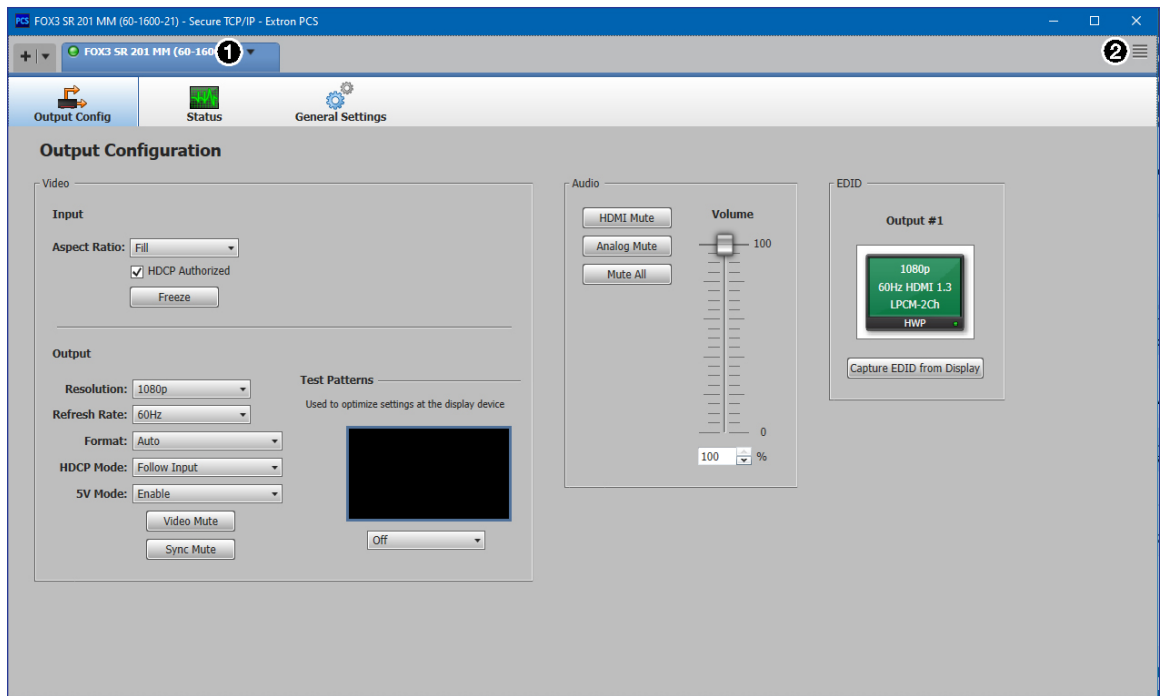

Figure 25. FOX3 SR 201 Main Window
Each PCS screen has a **Device** drop-down list (see figure 25, ①) for device configuration options. The **Software** menu (②) contains software configuration and information options.